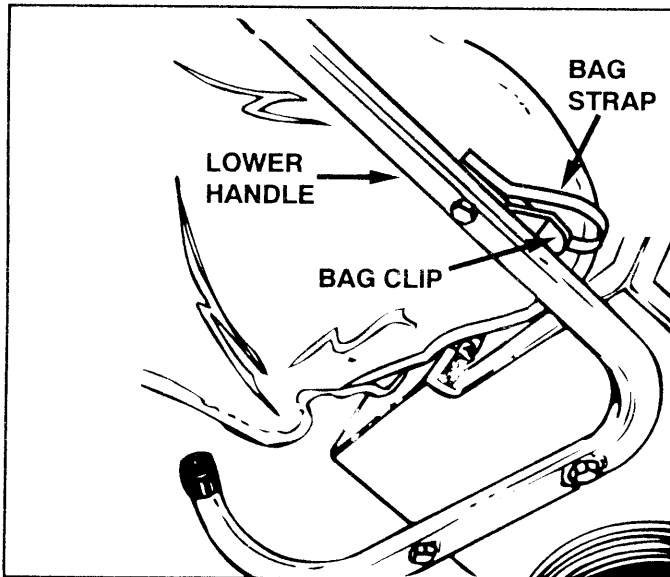

FIGURE 10
11. Hook the elastic straps on the bag flaps under the bag rod clips on the lower handle tubes as shown in figure 10.